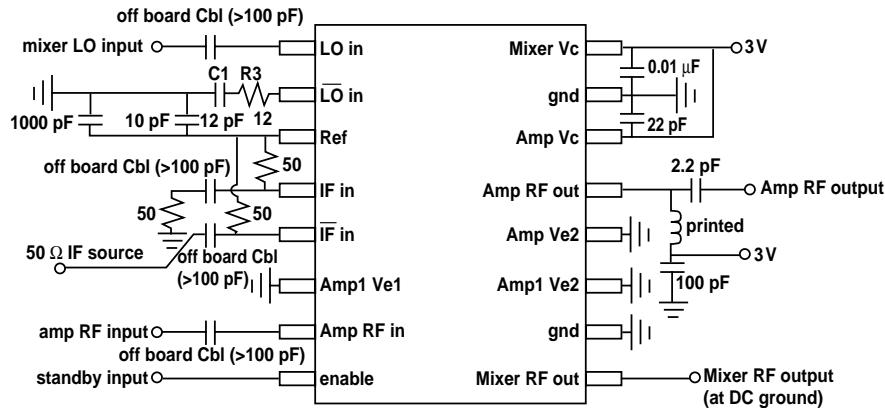

Figure 11. Test Board Configuration.
Circuit of Figure 11 with 1 k Pull up Resistors for the IFs and LO and RF Ports Terminated in 50Ω .
- [1] Circuit of Figure 11 with IF and RF Ports Terminated in 50Ω .
- [2] As above but LO RC combination in Figure 11 changed from 12Ω and 12 pF to 0Ω and 2.7 pF (recommended use for $> 1.75 \text{ GHz}$).
Circuit of Figure 11 with IF and LO Ports Terminated in 50Ω .